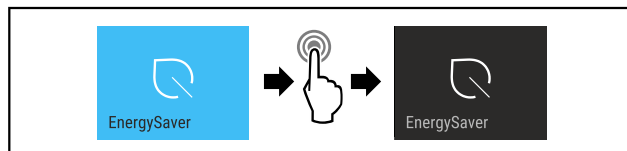

Fig. 15
- ▶ Complete the steps (see Fig. 15) .